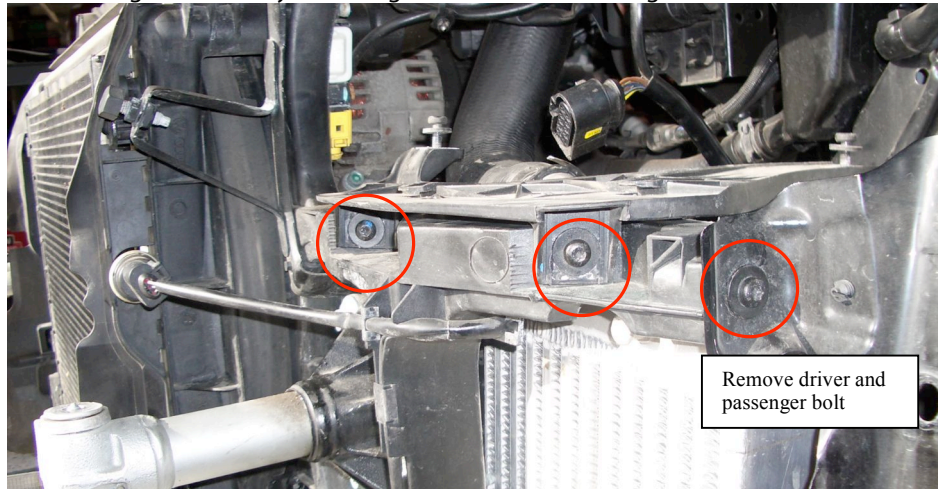

Figure 11
- 11) Remove the **2** (driver and passenger) T27 Torx bolts that attach the fender to the radiator support and remove the drivers side headlight bracket by removing the **2** T27 Torx. See Figure 11 below.